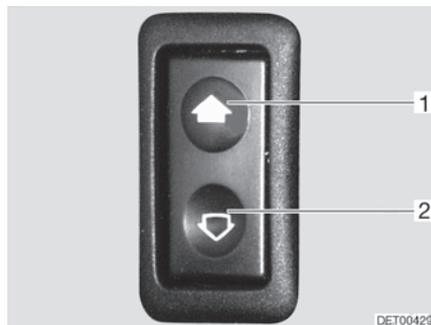

Fig. 27 Switch for electrical window winder
- Opening:* ■ Press the lower part (Fig. 27,2) of the switch.
- Closing:* ■ Press the upper part (Fig. 27,1) of the switch.